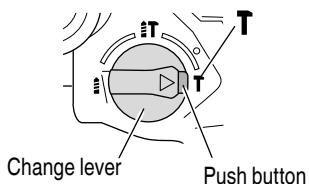

Fig. 19
This rotary hammer can be set to hammering only mode by pressing the push button and turning the change lever to the **T** mark (Fig. 19).
- (3) Turn the change lever to **T** mark (Fig. 19). Then bull point or cold chisel is locked.